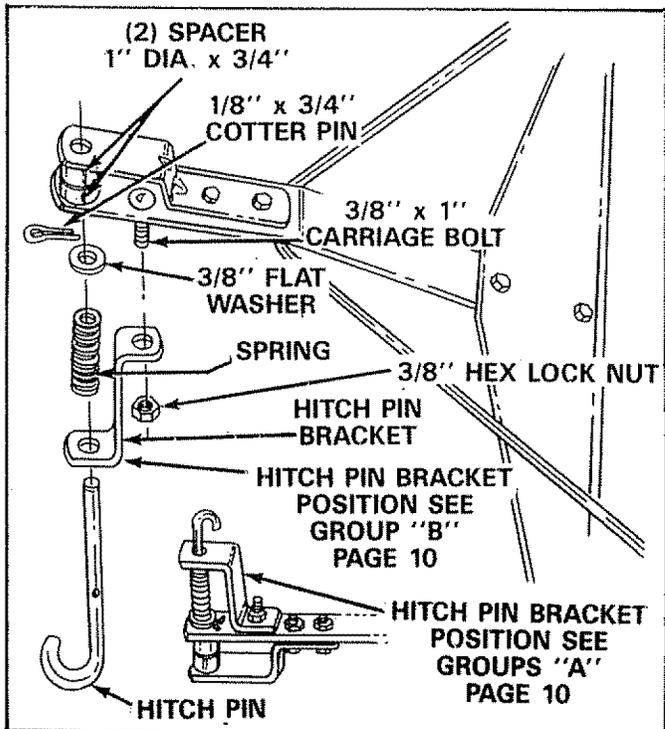

FIGURE 7
7. Assemble the hitch pin, spring and 3/8" flatwasher to the hitch pin bracket with one 1/8" x 3/4" cotter pin. See figure 7.
8. Assemble the hitch pin bracket and two 1" dia x 3/4" long spacers to hitch bar with one 3/8" x 1" carriage bolt and 3/8" hex lock nut. See figure 7. See page 10 for adjustment before connecting lawnsweeper to your Sears riding mower or tractor.